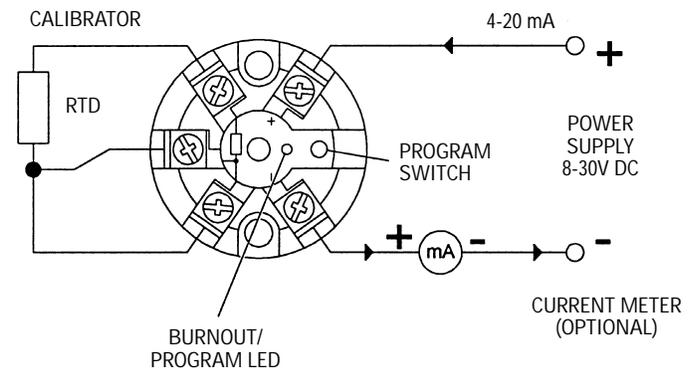

Figure 4
4.2 Method (see Figure 4)
1. Connect circuit as shown in Figure 4 and set the RTD calibrator for temperature required at 4 mA.